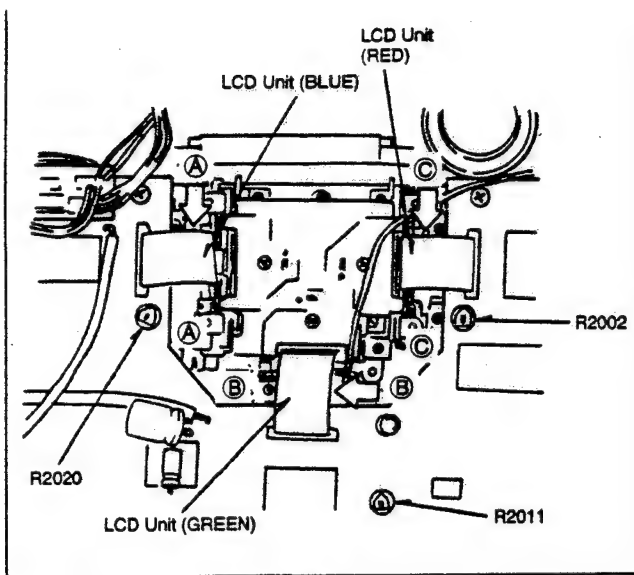

Fig. 8
3. Insert the black paper to ① and ② so that no light comes from any object other than LCD Unit (Green). (See Fig. 8)
8. Insert the black paper to A and B so that no light comes from any object other than LCD Unit (Red). (See Fig. 8)
13. Insert the black paper between B and C so that no light comes from any object other than LCD Unit (Blue). (See Fig. 8)